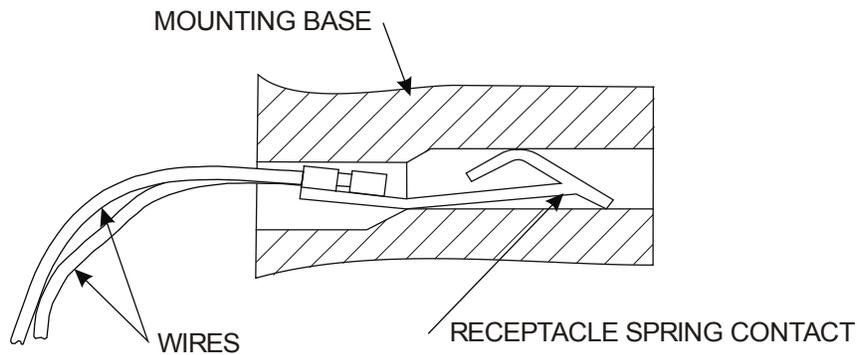

Figure 2-3. Receptacle Spring Installed
1. Receptacle contact springs must be inserted into the base cavity with the lock side down (Figure 2-3).